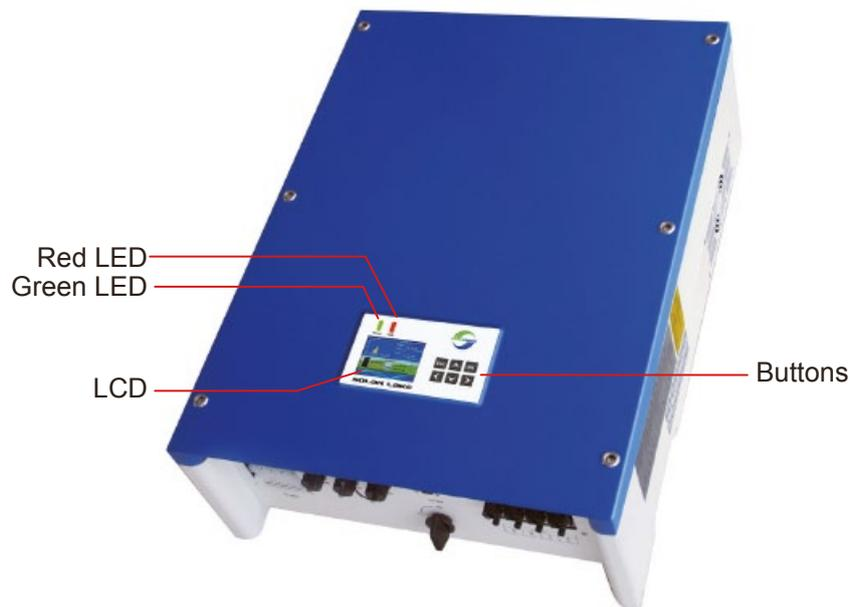

Figure 14 Display and control panel
6.1 Control and Display Panel(Figure 14)